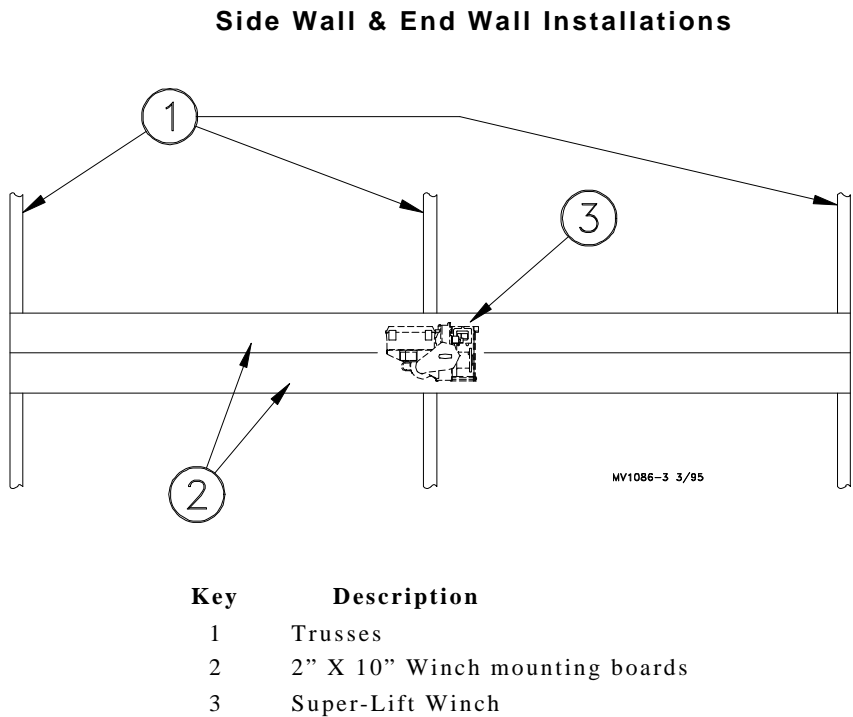

Figure 5. Side Wall Installation
The Winch may be installed in a variety of locations, such as open trusses (See Figure 3), on drop ceiling (see Figure 4), on a side wall (see Figure 5), on an end wall-inside or outside (see Figure 5).
Secure the (2) 2" X 10" (50 x 250 mm) boards with Base Plate to the trusses, as shown in Figure 5. The boards should span at least (3) studs and the winch should be located within 2 feet (61 cm) of a stud.